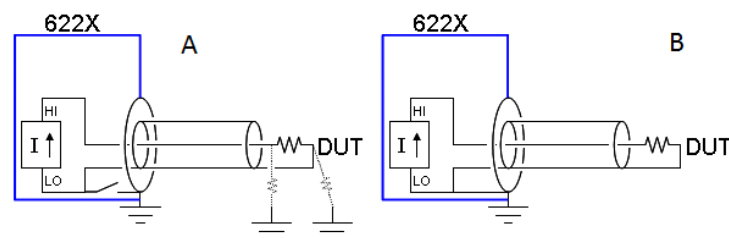

Figure 13. Output low (LO) of the 6221: A) floating, B) grounded. (source – *help of the KI6220 application*)
- 20) Specifies how output low (LO) of the Keithley 6221 is connected. Possible choices are float (fig. 13 A) or earth ground (fig. 13 B). **If the DUT has any low impedance path to earth ground, do not connect source-LO to earth within the 6221.** Connecting LO to earth can cause ground loops that will drive potentially large currents through leads, DUT contacts or even through the DUT itself. **If the DUT has no paths to earth, then connecting LO to earth within the 6221 will simplify connections, cabling and shielding.** LO can then be carried out to the DUT on the outer shield of the triax cable, rather than on a separate wire. (source – *help of the KI6220 application*)
Helpful tips for configuring measurement in the pulsed mode and the delta mode using Keithley devices are available in the help of the program KI6220. Figures 13 and 14 come from this program.